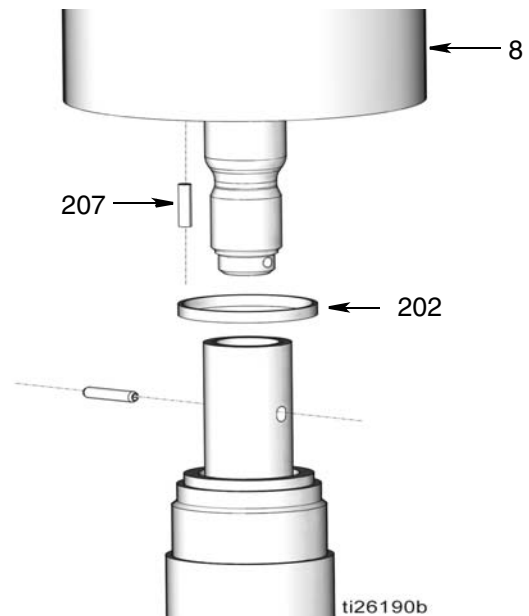

FIG. 28
2. Replace nylon pellet (207) in threads on bottom of pump adapter (8) (FIG. 28).
3. Install new gasket (202) in pump adapter (8) (FIG. 28).
4. Screw connecting rod (107) into displacement rod (35) until holes align. Install cotter pin (204) through holes.